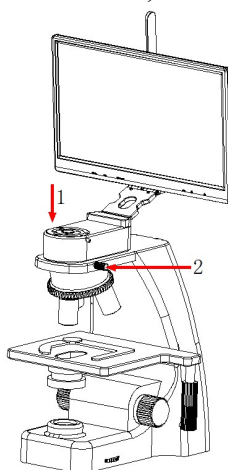

Figure 2
- 1) place the smart all-in-one camera to the end of the microscope objective, as shown in figure 2;